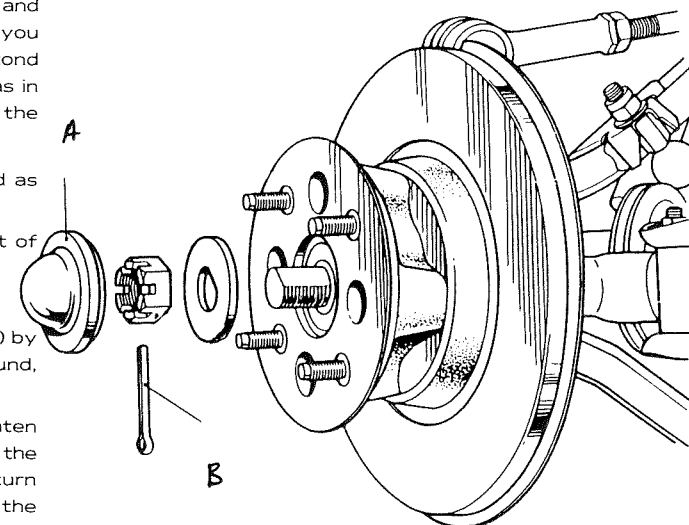

Fig.1.
- Remove the grease cap, (Fig. 1) by GENTLY tapping it all the way round, until it comes off.
- Remove the split pin (B) and tighten the nut whilst turning the hub until the hub starts to bind (i.e. won't turn freely). Now, undo the nut until the split pin will pass through the nut again, and the hub will turn without binding. The hub should turn freely and smoothly, without any roughness being felt.
- Remove the grease cap by GENTLY knocking all the way around until it comes off (Fig. 1). Remove the split pin, nut and washer (Fig. 1B).